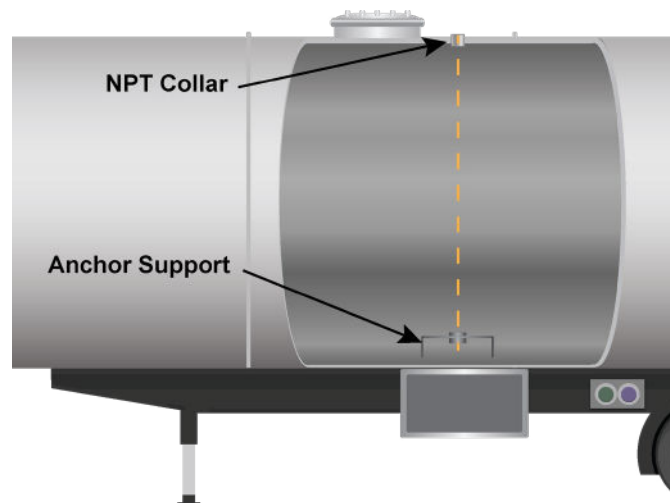

Figure 3.2.2a Install NPT Collar and Float Support
1. Drill a hole and weld NPT collar into place at top of the tank.(See Figure 3.2.2a)